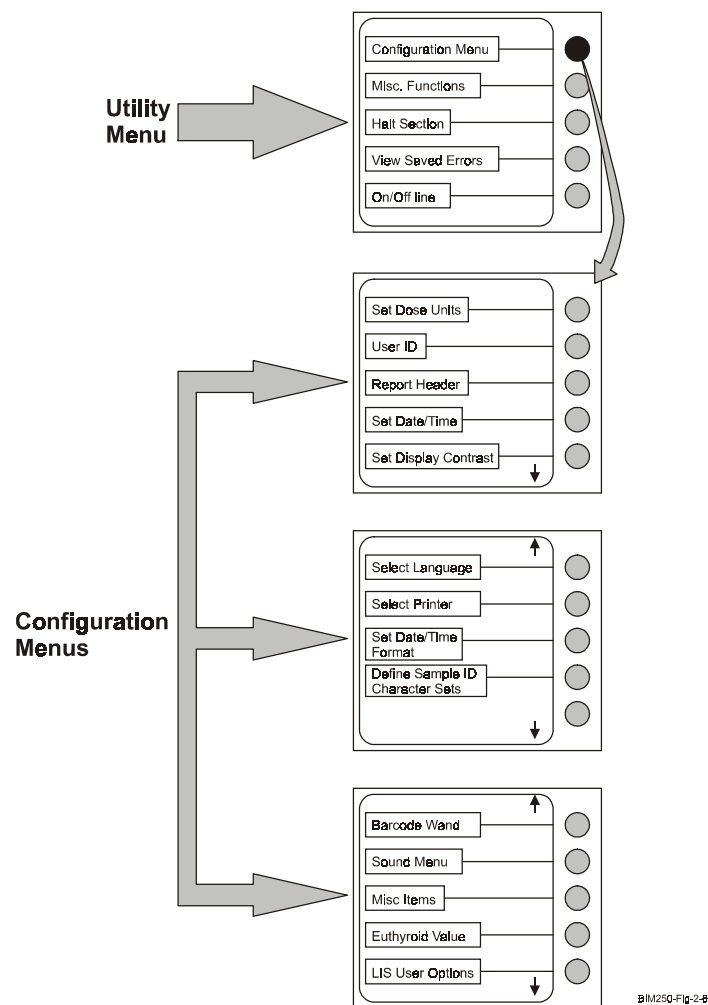

Figure 2-6 Accessing the Configuration Menus
- ◆ Select **Configuration Menu** from the **Utility Menu**. The Configuration Menu appears (see Figure 2-6).